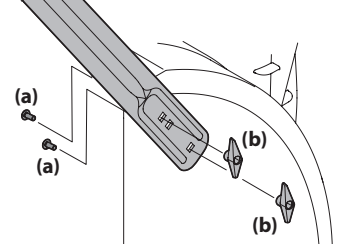

Figure 2-49
1. Remove two carriage bolts (a) and wing nuts (b) that secure each drift cutter, and remove them from the sides of auger housing. See Figure 2-49.
2. Turn the drift cutters around and position them as shown in Figure 2-49 to the outside of the auger housing.